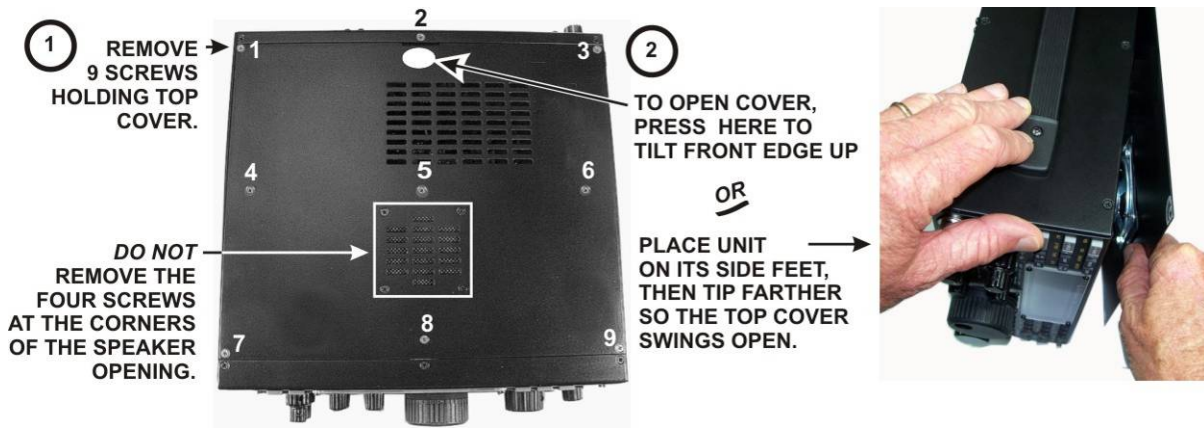

Figure 3. Removing K3 Top Cover.
Remove the nine screws to free the top cover as shown in Figure 3. After the cover is open, lift it gently to reach the speaker wire connector. Unplug the speaker then set the top cover aside in a safe place.
- Position the top cover on the K3. Note that the tab on the back center goes under the rear lip of the K3 rear panel. Secure the top cover with the nine 4-40 3/16" (4.8 mm) black flat head screws you removed earlier (see Figure 3 on page 8 for the screw locations).